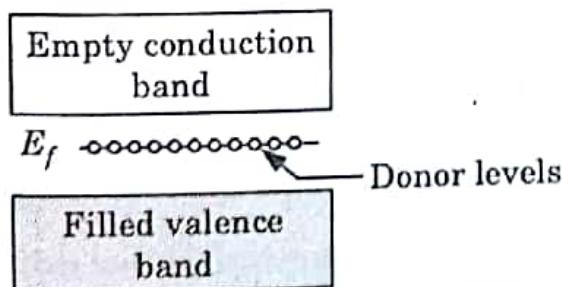

Fig. 3.14.2. *n*-type extrinsic semiconductor.
4. That is captured in the band diagram by this donor level (Fig. 3.14.2) which stays very close to the empty conduction band. So, at very small amount of energy we can get these donor electrons to get into the conduction band and then carry out the conduction processes.